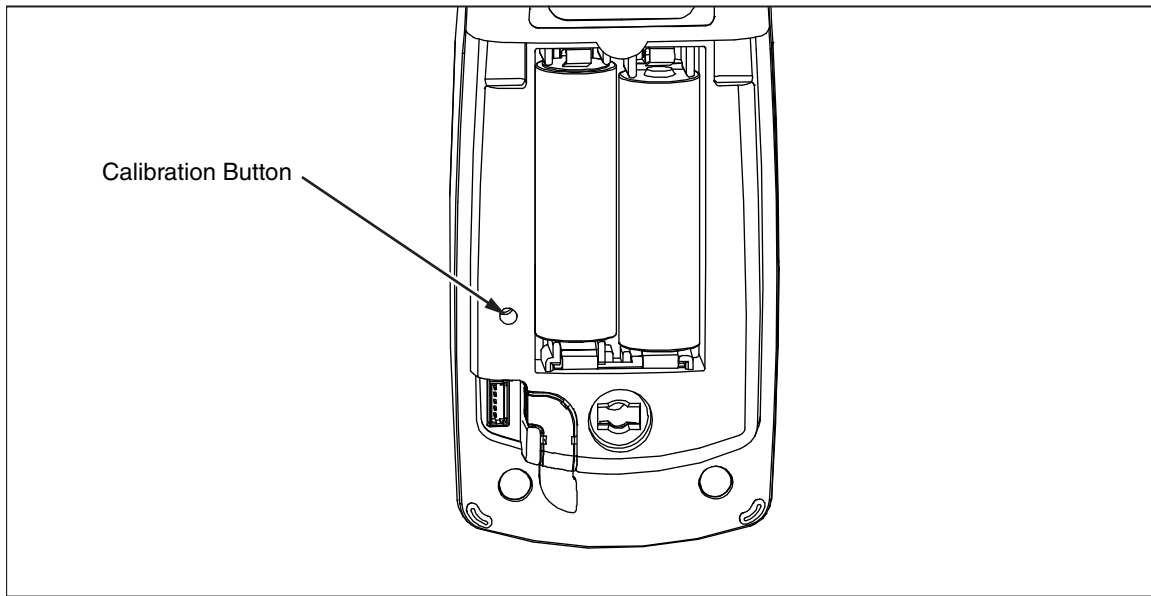

Figure 4. Accessing the Calibration Button
Use a small probe to press the calibration button once to enter the Meter's calibration mode. The calibration button is usually covered by the factory calibration seal. A second press of the button saves new calibration constants and exits calibration mode. See Figure 4.
See Figure 4.
7. Press the hidden calibration button to exit calibration mode. See Figure 4.